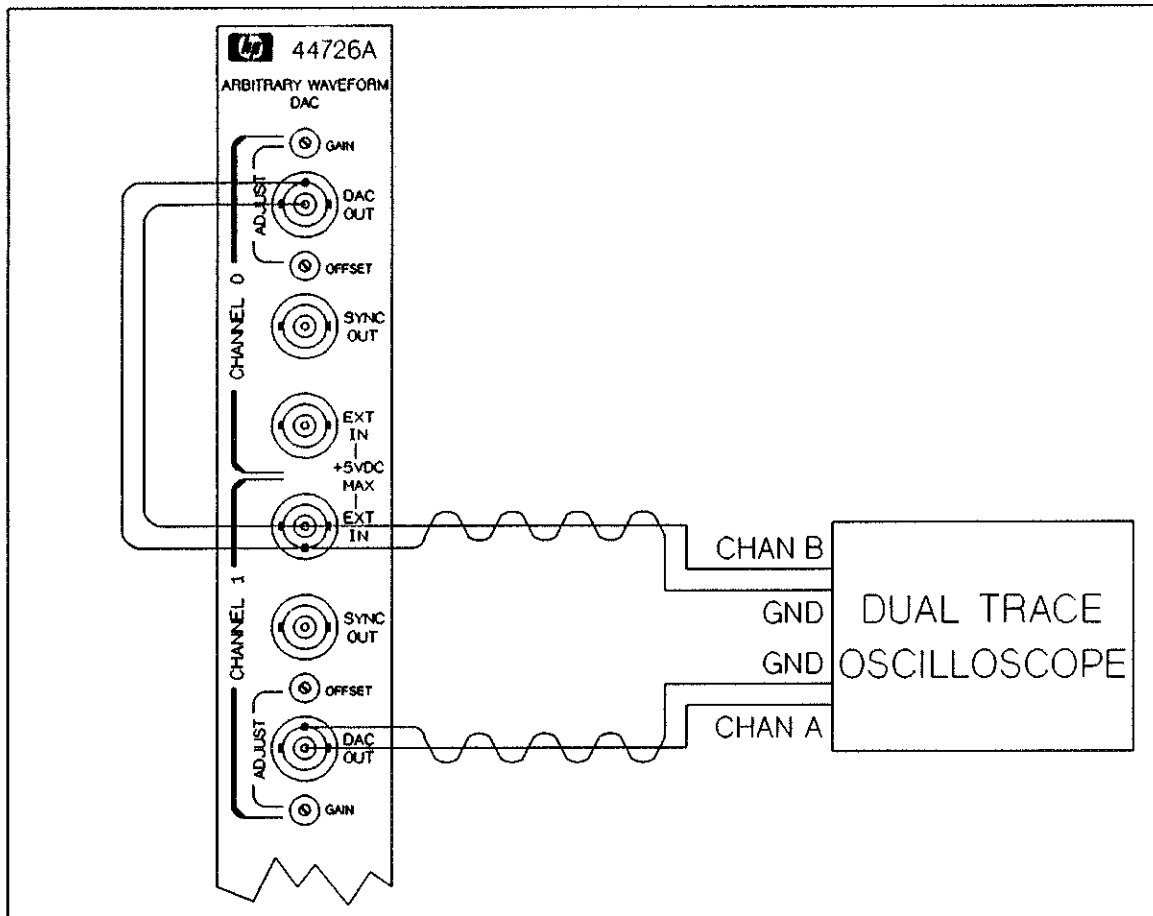

Figure 21-10 Channel 1 Trig Input Test Setup
31. Refer to Figure 21-10. Connect channel A of the oscilloscope to the accessory's DAC OUT connector on channel 1. Connect channel B of the oscilloscope to the accessory's EXT IN connector on channel 0. Also connect the accessory's DAC OUT connector on channel 0 to the EXT IN connector on channel 1.